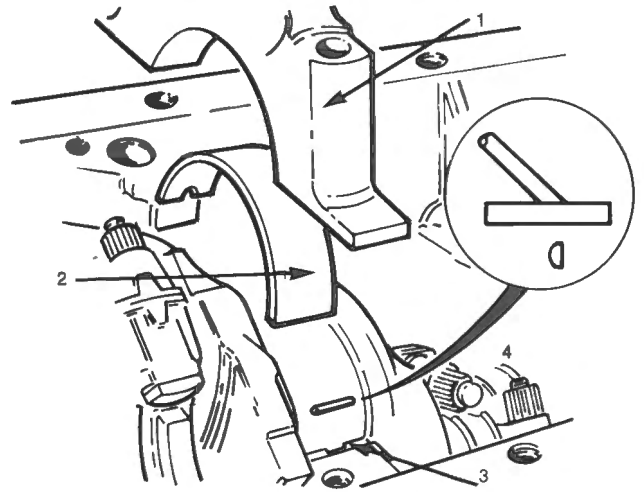

Fig. D-95
- 26 Insert a 'roll out' pin in the oil supply hole in the crankshaft, then rotate the crankshaft in the direction of opposite rotation. The pin will contact the upper shell and roll it. Fig. D-95.